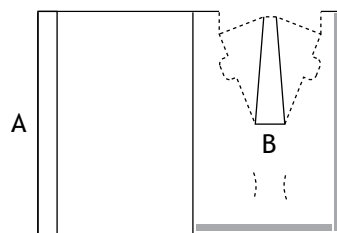

Fig. 1
2. Apply double sided tape to the areas shown in grey (Fig 1).
3. Fold the glue flap (A) (Fig. 1).